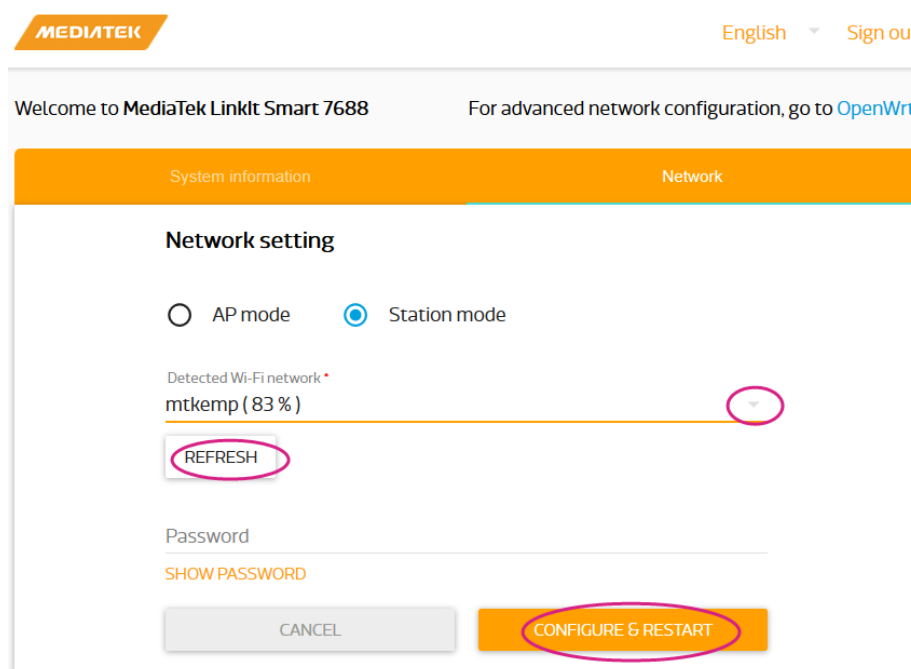

Figure 30 Changing to Station mode in Web UI
- 2) Select the **Station mode** and click **REFRESH** or **downward arrow** on the right to find the AP to connect to. After you've selected the AP, enter password if required. Click **CONFIGURE & RESTART** to finish as shown in Figure 30.